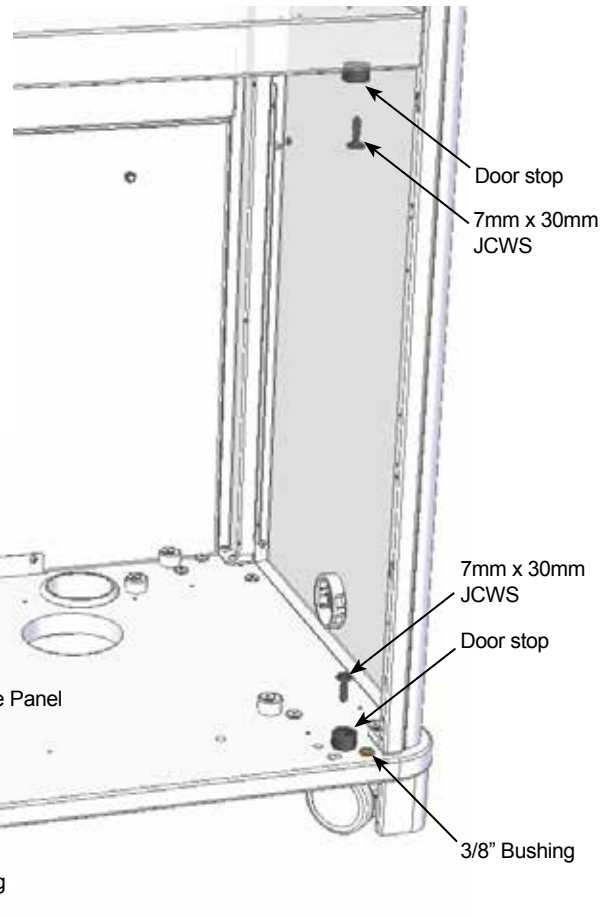

Figure 1
2. Install the (2) 3/8" bushings into the base panel holes. **Figure 1.**
3. Install the (2) door stops opposite the chosen hinge-side. (One in upper, and one in lower position.)